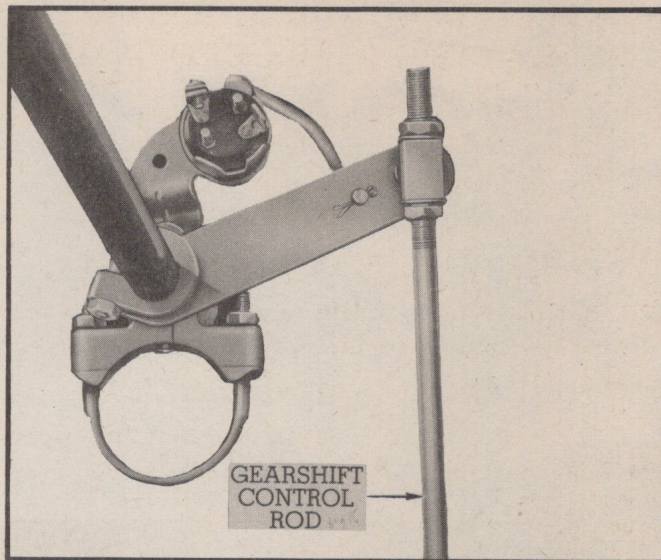

Fig. 75—Manual Control Adjustment
2. Back off both gearshift control rod trunnion lock nuts (Fig. 75).